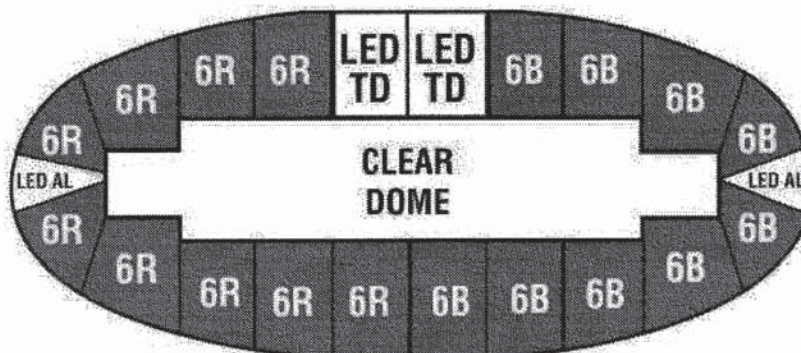

Figure 6 – Federal Signal – Arjent® S2 Light Bar configuration
(1). Federal Signal – Arjent® S2 Light Bar or equivalent, with clear cover and top dome (see Figure 6 for configuration); or